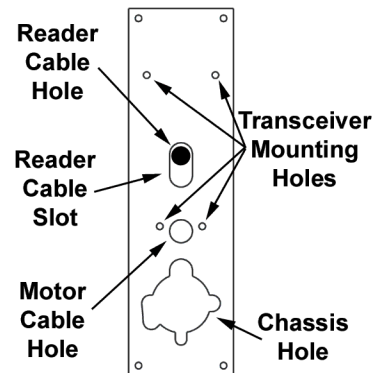

Figure 2-14 – Transceiver Scar/Push Plate
2.5.1.2.12 If the door does not have the 2 1/8" Chassis Hole already drilled, place the Transceiver Scar/Push Plate, so that the center of the Chassis Hole (Figure 2-14) in the Transceiver Scar/Push Plate is centered over the intersection of the horizontal line drawn in Section 2.5.1.2.1 and the 2 3/4" setback line drawn in Section 2.5.1.3.2.
- 2.5.1.2.16 Using the Transceiver Scar/Push Plate as a template, drill or route out the door around the 2-1/8" Chassis Hole (Figure 2-14).
- 2.5.1.2.17 Using the Transceiver Scar/Push Plate as a drill jig, drill four 9/64" Transceiver Mounting Holes in the door (Figure 2-14).
- 2.5.1.2.18 Using the Transceiver Scar/Push Plate as a drill jig, drill a 3/4" Reader Cable Hole in the door at the **top end of the Reader Cable Slot** (Figure 2-14).
- 2.5.1.2.19 Using the Transceiver Scar/Push Plate as a drill jig, drill a 3/4" hole in the door Motor Cable Hole (Figure 2-14).